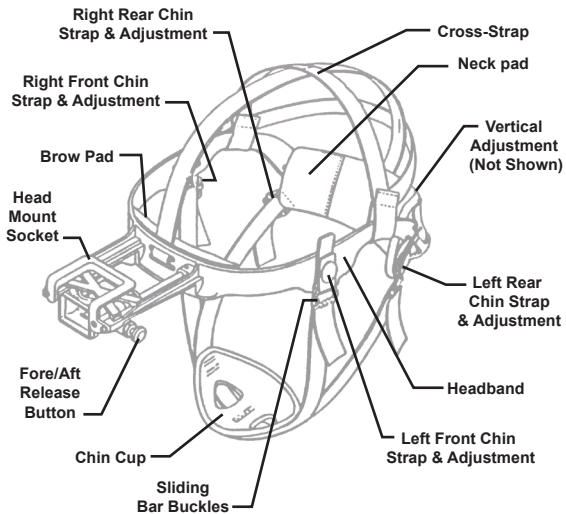

Figure 4-5. PVS-7 Head Mount Adjustments
1. Prior to putting on the head mount, loosen the four chin straps so the ends of each strap are approximately two inches from the sliding bar buckles (See Figure 4-5).
7. Readjust the vertical strap assembly (See Figure 4-5) for vertical adjustment of the head mount until the PVS-7 is properly aligned with your eyes.